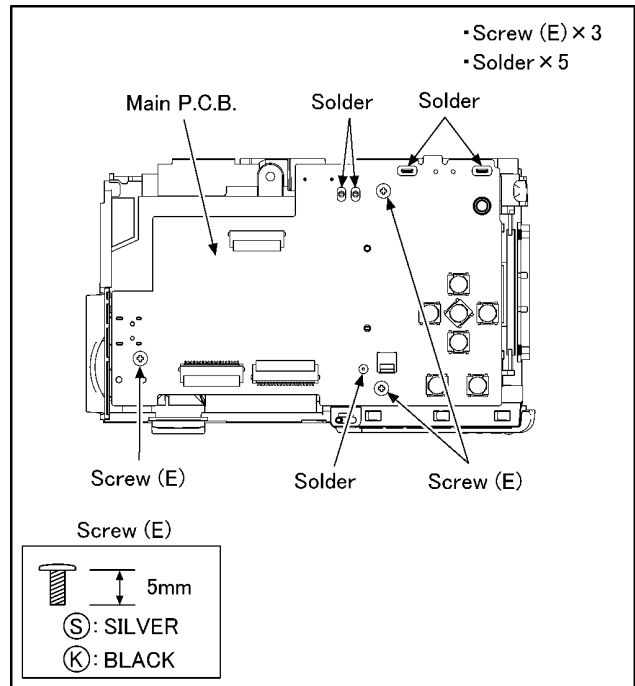

Fig. D8
| 7   | Main P.C.B.      | Fig. D8            | 3 Screws (E)Solder (5 points)Main P.C.B.                                  |